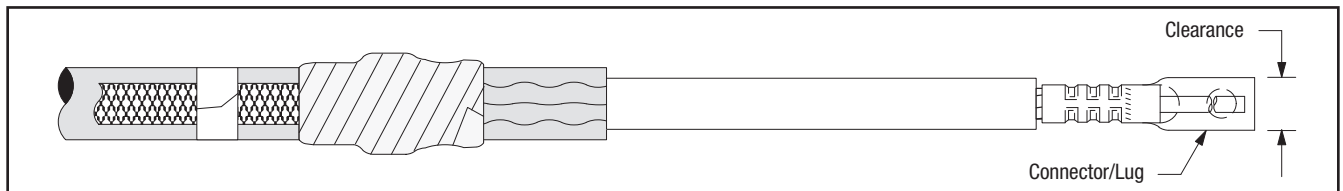

Figure 23
**14.1 Check to insure 3M Cold Shrink QT -III Silicone Rubber Termination fits over the selected lug or connector BEFORE installing the lug or connector.** If lug or connector (Figure 23) will not fit through the termination core, clean the insulation (per Step 15.0) and slide termination on cable before installing lug or connector. **DO NOT REMOVE CORE AT THIS TIME.**